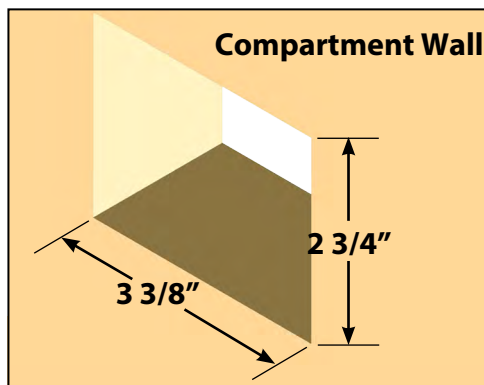

Fig.18
3. Cut a hole in the wall of the compartment $3 \frac{3}{8}$ " wide by $2 \frac{3}{4}$ " high so the top and bottom horizontal cuts are parallel to the floor of the compartment (Fig. 18).